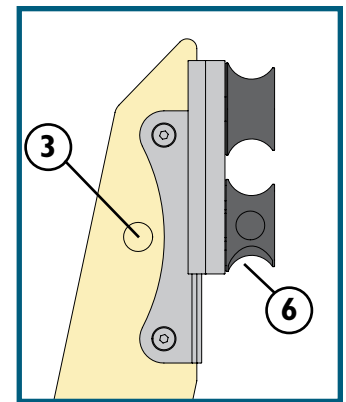

Fig. 2
1. Drill  $\frac{1}{4}$ " holes and install the Roller Bracket Assembly (6) on the Ladder Rails using  $\frac{1}{4}$ -20 x 35mm Connector Bolts (11) and  $\frac{1}{4}$ -20 Acorn Nuts (10). Center the Roller Bracket Assembly (6) on the Wood Spindle (3). **Fig. 2**.